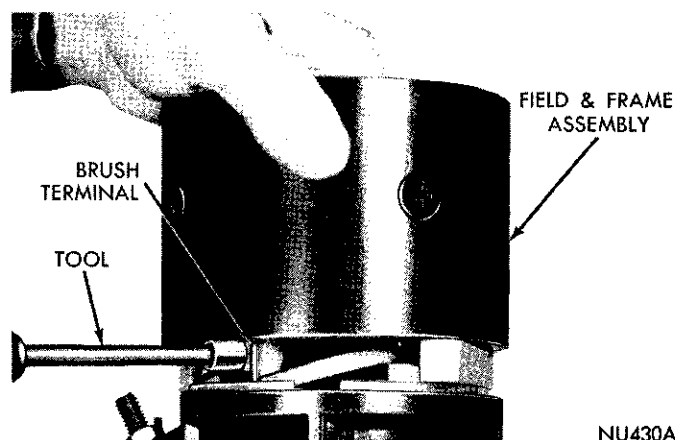

Fig. 2—Removing or Installing Terminal Screw
(1) Place the starter gear housing in a vise equipped with soft jaws. Use the vise as support fixture only. **DO NOT** clamp.
(2) Remove two through bolts and starter end head assembly.
(3) Carefully pull armature up and out of gear housing and starter frame and field assembly. Remove steel and fiber thrust washer. **The wire of shunt field coil is wrapped on the brush terminal. One set of brushes are connected to this terminal. The other pair of brushes is attached to the series field coils by means of a terminal screw. Carefully pull frame and field assembly up just enough to expose terminal screw and wire wrap connection of shunt field at brush terminal. Place two wood blocks between starter frame and starter gear housing to facilitate removal of terminal screw, Fig. 2.**
(4) Support brush terminal by placing a finger behind the terminal and remove terminal screw.
(5) Unwrap shunt field coil lead from starter brush terminal. **Starter brush holder plate with starter brush terminal, contact and brushes is serviced as an assembly.**
(6) Unwrap solenoid lead wire and unwind wire